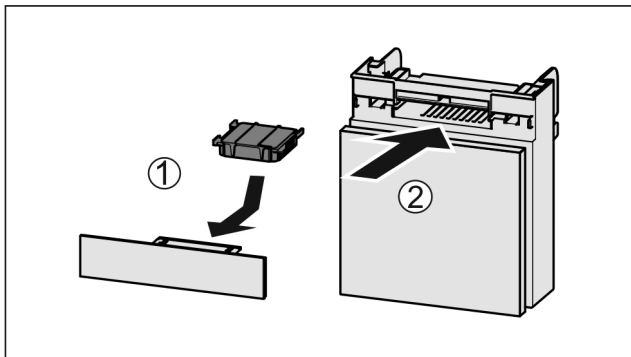

Fig. 67
- Insert the carbon filter as shown in the diagram Fig. 67 (1).
- Push the compartment in Fig. 67 (2).